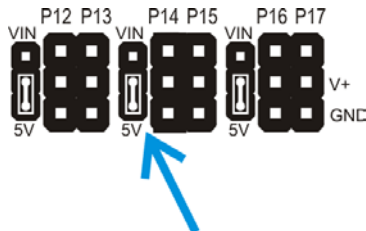

Figure 4-6
Figure 4-6 shows the servo header on the Propeller Activity Board. Each larger set of 3 pins is a servo port, with a Propeller I/O pin connection on top, a V+ connection in the middle, and a GND connection at the bottom.
- ❑ Verify that the jumper is set to 5V as shown in Figure 4-6. If it is instead set to VIN, lift the rectangular jumper up off of the pins it is currently on, and then press it on the two pins closest to the 5V label.